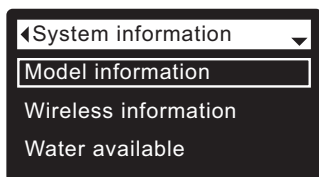

FIG. 54
3. Press the SELECT (O) button to display the System information menu (See Figure 54).
7. When finished viewing an information screen, press the SELECT (O) button. The display will go back to the System information menu (Figure 54). It will also exit automatically if no buttons are pressed for four minutes.